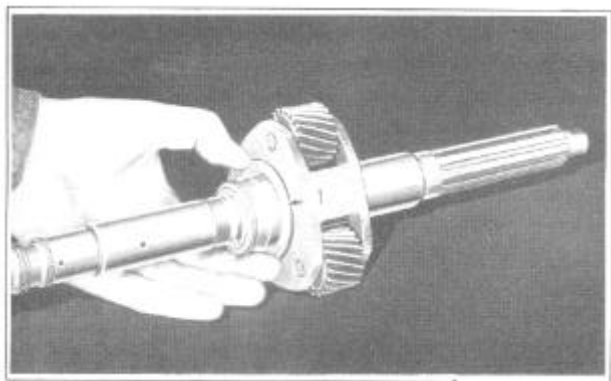

FIGURE 126
19. Place the rear planetary carrier front thrust washer over the mainshaft and onto the rear planetary carrier, Figure 126. The steel face of the washer must be towards the planetary carrier. Apply petroleum jelly to keep the washer in place.